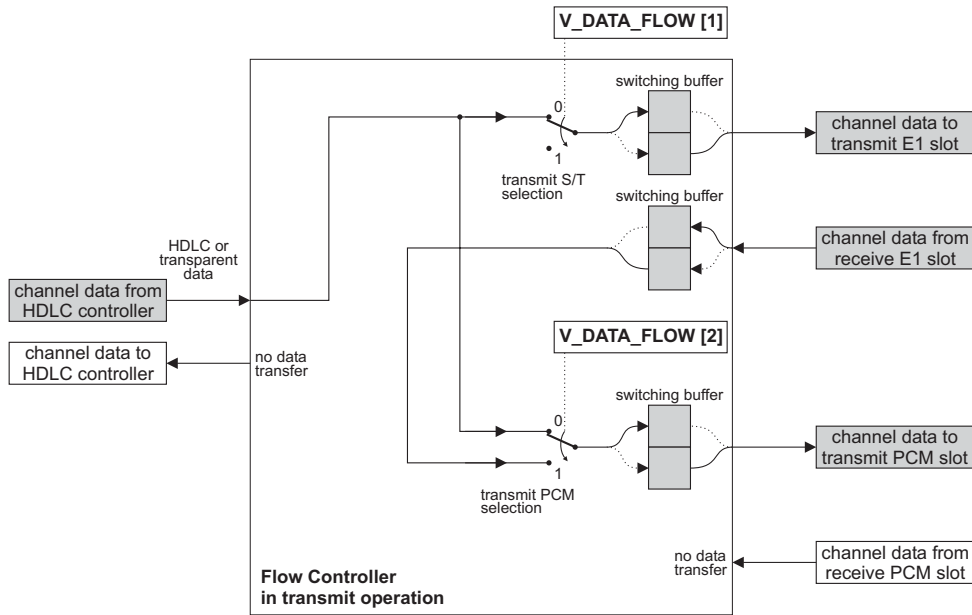

Figure 3.3: The flow controller in transmit operation
In transmit operation one HDLC or transparent byte is read and can be transmitted to the E1 and the PCM interface as shown in Figure 3.3. Furthermore, data can be transmitted from the E1 interface to the PCM interface. From the flow controller point of view, the switches select the source for outgoing data. The switches are controlled by the bitmap  $V\_DATA\_FLOW[2..0]$  of the register  $A\_CON\_HDLC[n,TX]$  where  $n$  is a FIFO number.
- The PCM interface can transmit a data byte which comes either from the FIFO or from the E1 interface. Bit  $V\_DATA\_FLOW[2]$  selects the source for the PCM transmit slot (see Figure 3.3). The receiving E1 time slot has always the same number as the transmitting E1 time slot.